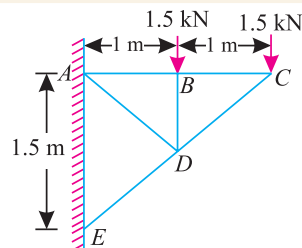

Fig. 14.35.
1. Determine the forces in the various members of a pin-jointed frame shown in Fig. 14.35. Tabulate the results stating whether they are in tension or compression.